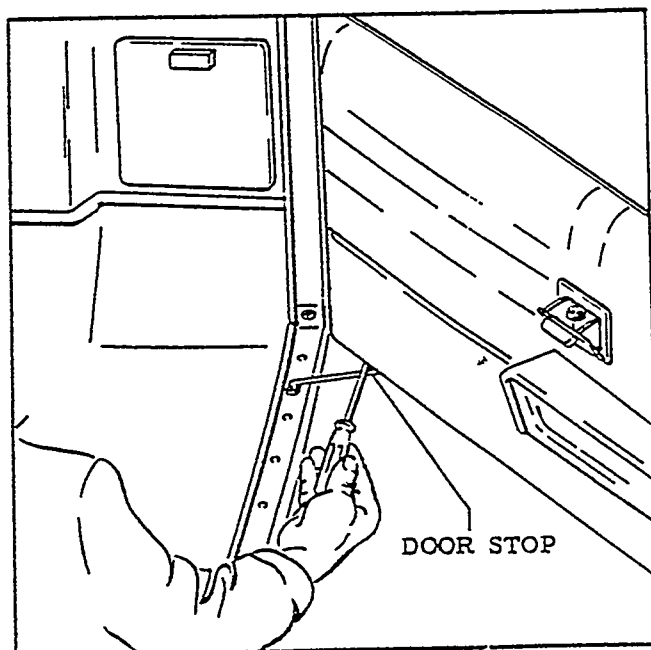

Figure 3-8. Cabin Door Stop
- f. With the door open insert a screw driver between the door stop and the bottom of the door. Slowly close the door while applying a downward pressure on the door stop until the stop is released from the door (see Figure 3-8).